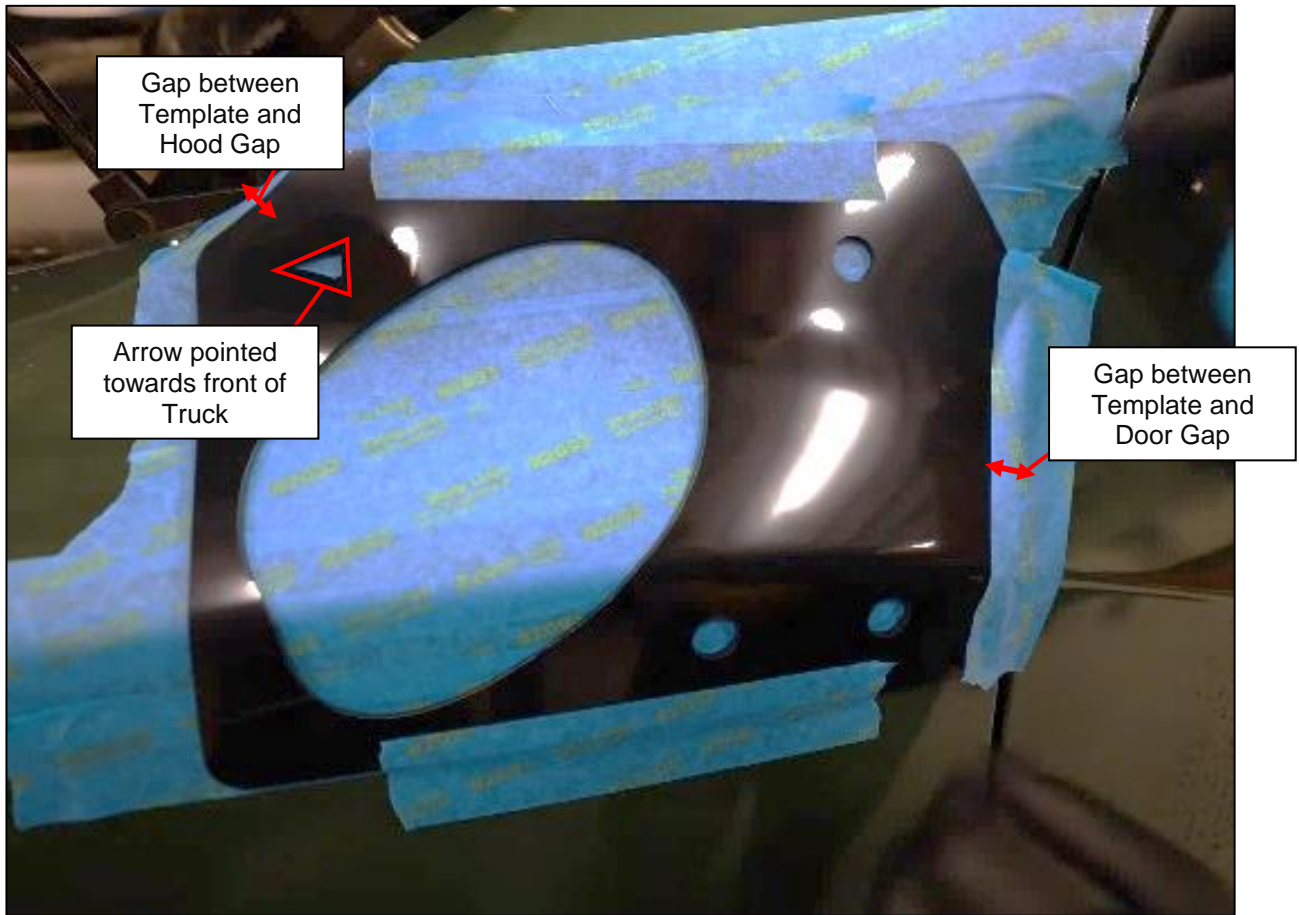

Figure 5
8. Locate the Locating Template and fit it to the Driver's Side Fender. The Locating Template is form fitted to the Fender, and can only go on one way. The arrow on the template must face forward. You also want the gap from the Template-to-Door Gap and Template-to-Hood Gap to be the same. Once positioned, secure with Painters Tape. *Figure 5.*